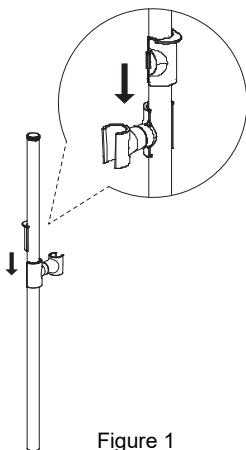

Figure 1
- b) Wrap the teflon tape anticlockwise on the thread of the G1/2 end of the curved connector (10) , connect them to the hot and cold water outlets by a wrench. Leave suitable depth out of the wall and adjust the distance between 2 connectors according to the width of the inlet on the thermostatic shower bar .
- c) Make sure the 2 curved connectors are installed deadly straight into the wall. The centre distance between 2 curved connectors is 150±8mm. Use the spirit level (11) to make sure the centre line remains horizontal .
- a) Connect the thermostatic shower bar (9) onto the curved connectors. Left side is hot water and right side is cold water. Use the Allen key to secure .
- a) Connect the raiser rail to the thermostatic shower bar(Figure 1/2) and mark the position of the pipe connector on the wall (Figure 3).